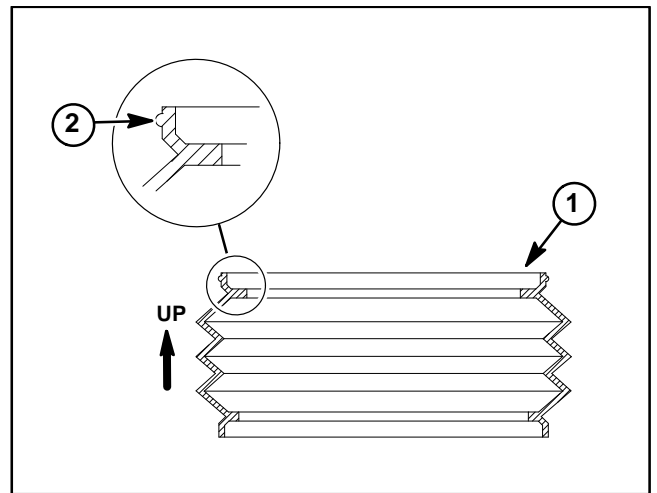
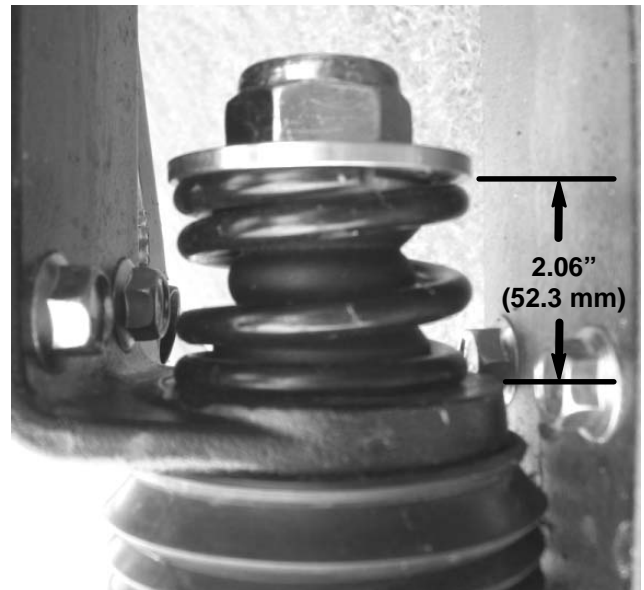

Figure 37
Figure 38
1. If pivot bracket (item 4) was removed from machine:
- A. Lightly lubricate bushings (item 6) with motor oil before assembly.
- B. Install pivot pin (item 12) from rear of machine.
2. Make sure that hinges (item 5) are securely fastened to pivot bracket (item 4) and spray boom (item 20). The boom hinge uses four (4) backing plates (item 13) between the spray boom and flange nuts.
3. Position boom hinge to pivot bracket hinge. Make sure that rubber boots (item 18) are placed at hinge junctions and that ribs on boots are toward the top of the boom (Fig. 37).
4. Insert two (2) cap screws (item 10) through flat washers (item 9) and hinges. Place dampener (item 19), breakaway spring (item 16), spring retainer (item 15) and lock nut (item 11) on each cap screw. Make sure that shoulder on spring retainer fits into breakaway spring.
5. Tighten lock nuts to obtain a compressed spring height of **2.06" (52.3 mm)** (Fig. 38).